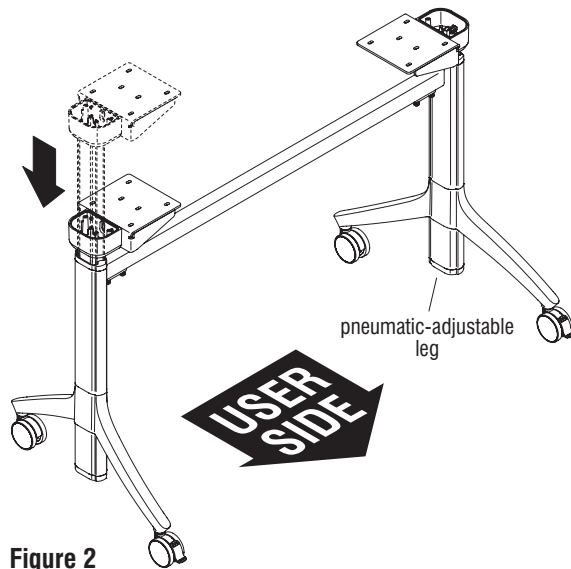

Figure 2
3. Press the barrel cable actuator firmly onto the cylinder release button and push the mounting head straight down with force until the leg reaches the lowest position, then quickly release the actuator from the button to stop the cylinder from rising up. If the button is released before the leg reaches the lowest position, go back to step 2 to start the process over. If the cable release bracket is lowered to within 1” inch of its proper lowest position, the table can still be assembled properly. Proceed back to “Nesting Support Assembly Installation” Instructions on page 7 or “Pneumatic-Adjustable Fixed-Top Leg Assembly Installation” instructions on page 19 (Figure 2 & Detail C).